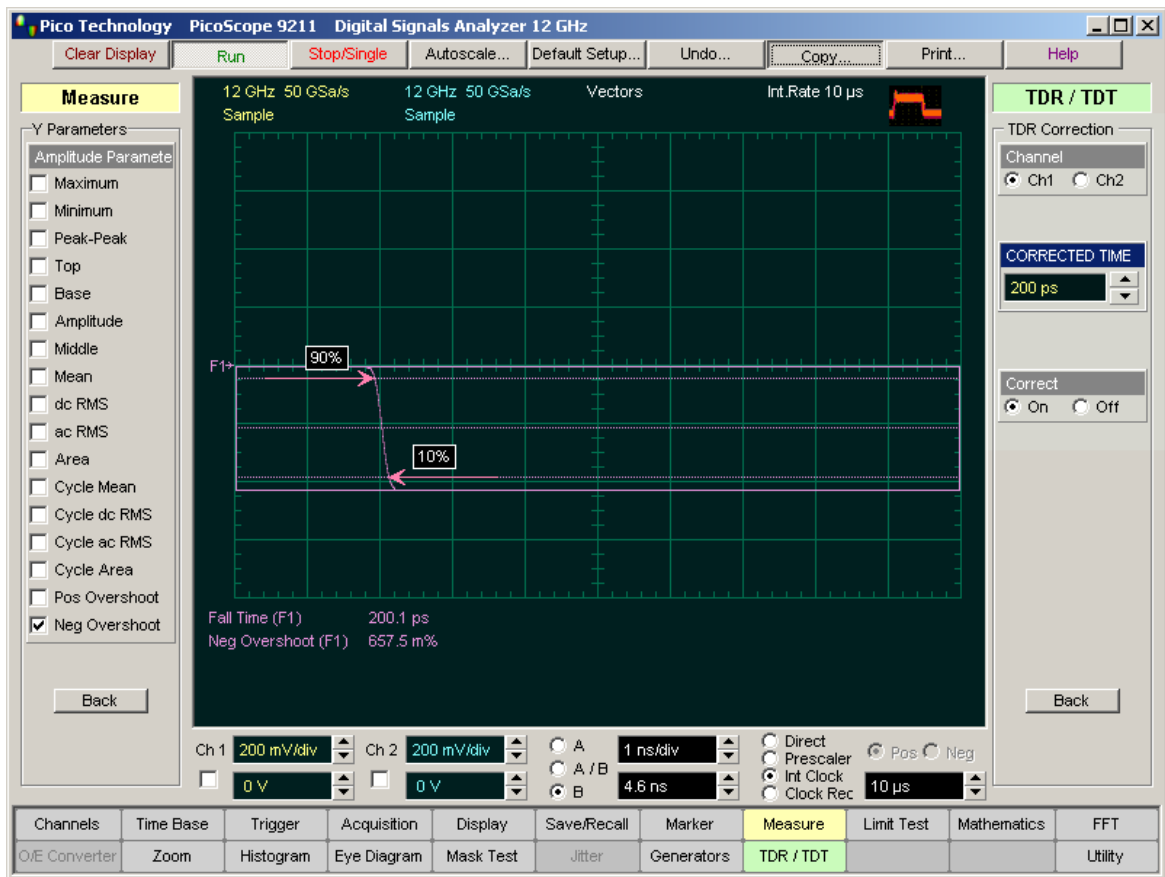

Figure 2
11. Set the CORRECTED TIME to 200 ps. See Figure 2.